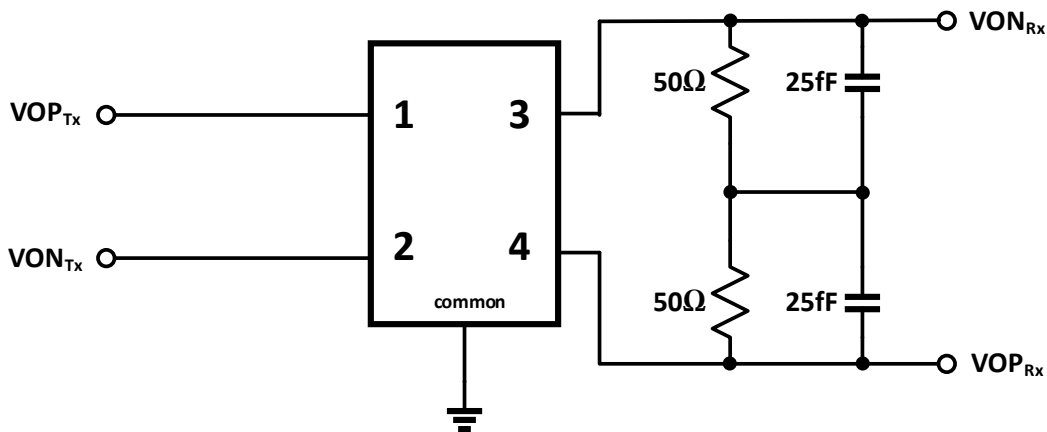

Figure 17. Channel termination diagram
19. Use ‘nport’ from ‘analogLib’ (detailed setup on next page, Figure 18) to simulate the inverter based transmitter with the four-port channel from the S-parameter file TYCO.s4p (<http://emlab.illinois.edu/ece546/tools/TYCO.s4p>). You need to add another inverter to generate a differential input of the channel. The channel needs to be terminated as shown in Figure 17. Plot the results of the differential input of the inverter based transmitter, differential input of the channel and differential output of the channel. Comment on the results.